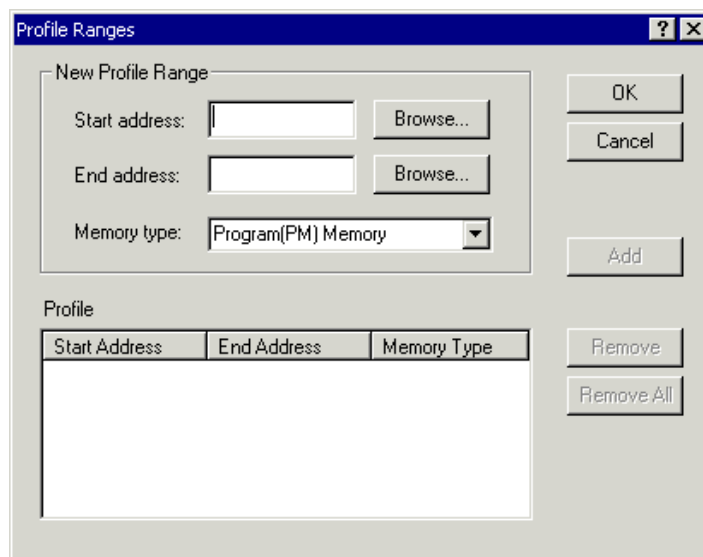

Figure 3-9. Profile Ranges Dialog Box
2. From the **Tools** menu, choose **Profile**. Then choose **Add/Remove Profile Ranges** to open the **Profile Ranges** dialog box, shown in Figure 3-9.